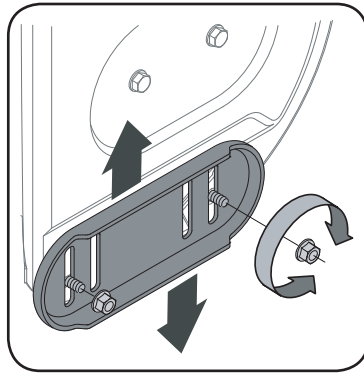

Figure 5-7 - Steel Reversible
**NOTE:** Some models are equipped with reversible skid shoes and may be turned over to increase their lifespan. See Figure 5-7 and 5-8.